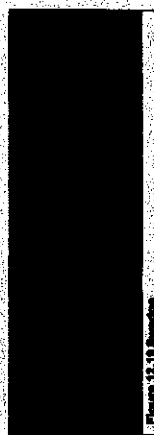
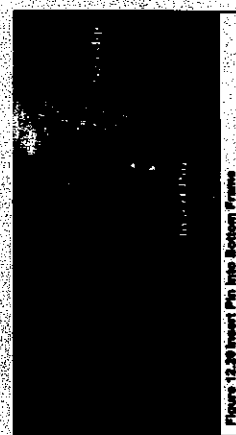

Figure 12.19 Swedge
Figure 12.20 Insert Pin Into Bottom Frame
- Install rod with swedge (Figure 12.19) in hole in glass frame bottom. See Figure 12.20.